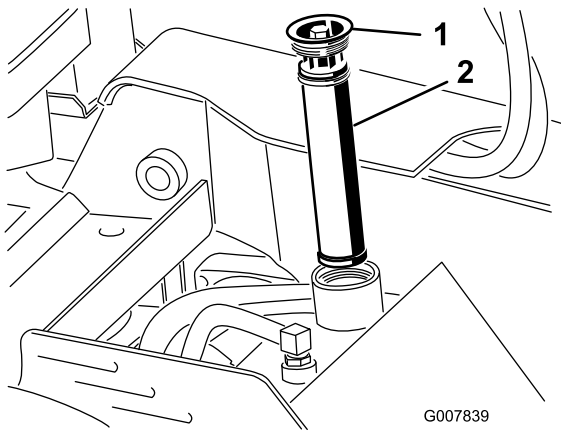

Figure 65
5. Clean the area around the filler neck of the hydraulic tank and remove the cap and filter from the filler neck using a socket (Figure 65).